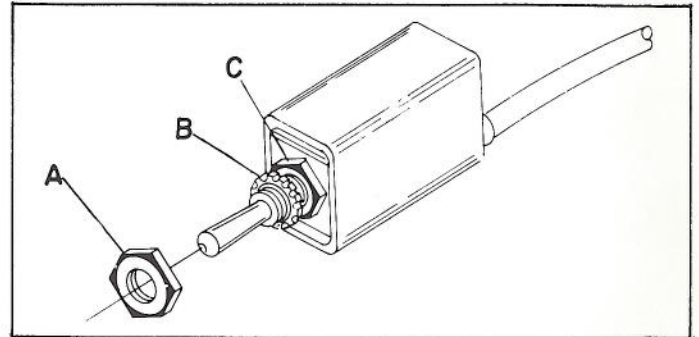

Fig. 7
1. Remove the outer hex nut (A) Fig. 7, from the switch stem. Leave shakeproof lockwasher (B) and inside hex nut (C) on switch stem. CAUTION: The proper grounding of the switch, to prevent shock hazard, depends on the use of the shakeproof lockwasher (B) Fig. 7, in the manner shown.